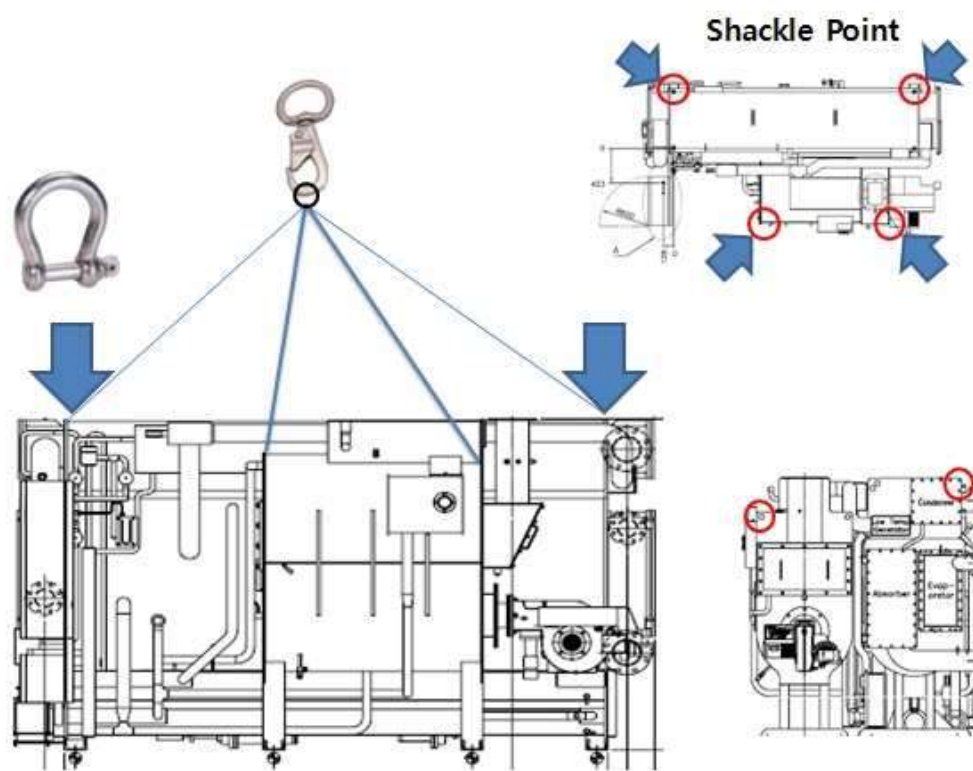

Fig. 3-2. Rigging The Unit, Shackle Point Views
- 2) Hang the shackles and wire rope as illustrated in Fig. 3-2. Lifting holes are furnished in the each top corners of the machine lower shell. The shackle size and the wire diameter shall be selected per the machine weight.